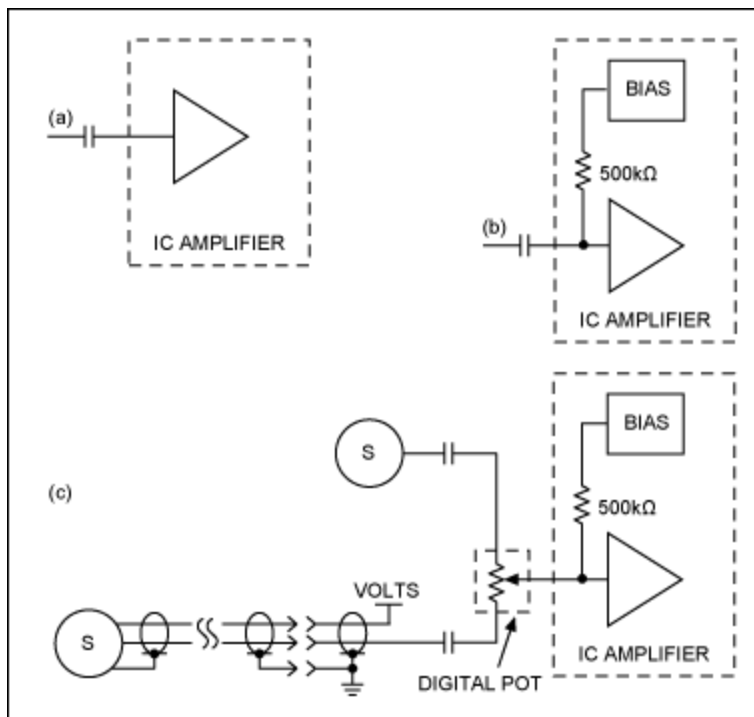

Figure 3. Analog traps for inexperienced digital designers.
**Figure 3** illustrates an analog trap that a new digital engineer can fall into. The experienced analog engineer will see at least three traps waiting because of inattention and the high-input impedance. First, there is the DC issue with leakage; second, there is an electro static discharge (ESD) issue, and third, the AC issue with noise plus radio frequency interference (RFI). We will examine each in turn.